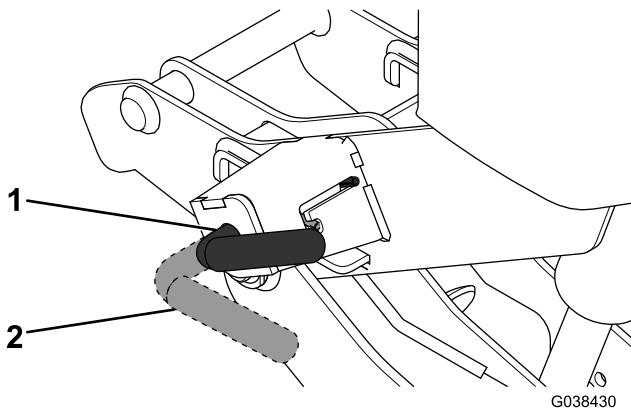

Figure 21
3. While putting upward pressure on the coupler handle, turn the levers on the couplers to the OFF position (Figure 21).